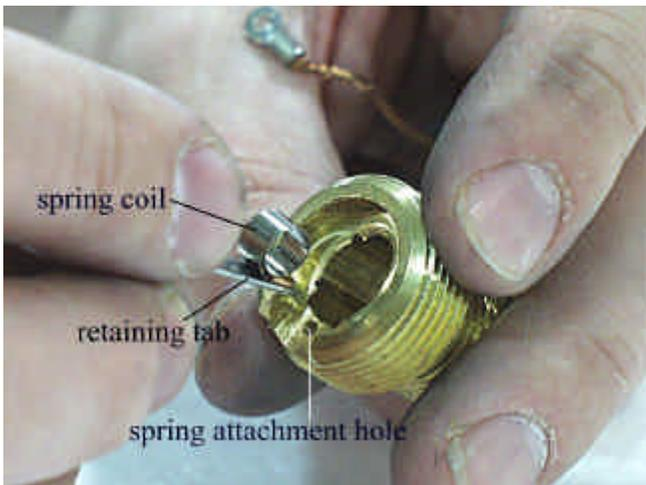

Figure 11: Close-up of Spring Coil (reference only)
3) verify that the spring coil is connected to the retaining tab and is inserted into the body of the carbon brush holder (see Figure 11 for reference only).